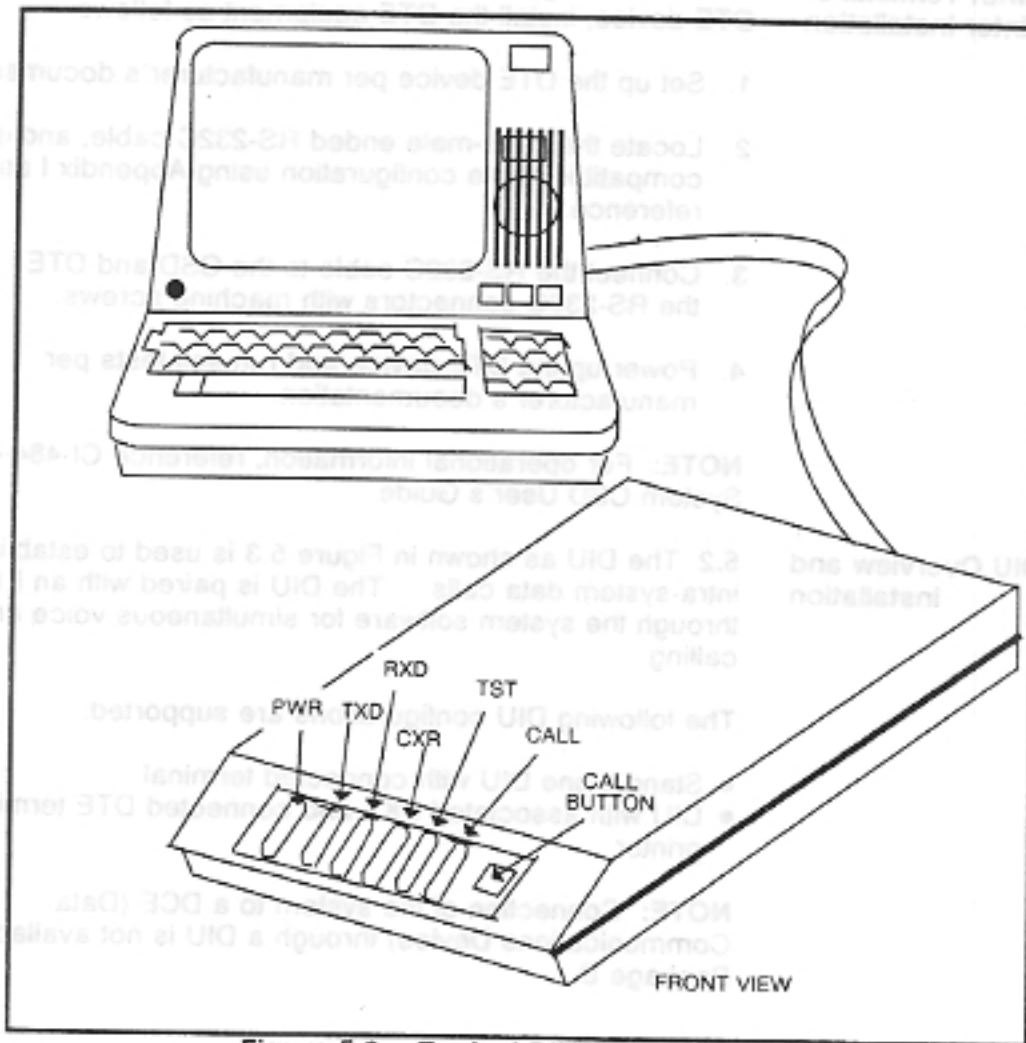

Figure 5.3 Typical DIU Configuration
5.2 The DIU as shown in Figure 5.3 is used to establish intra-system data calls. The DIU is paired with an EKT through the system software for simultaneous voice and data calling.